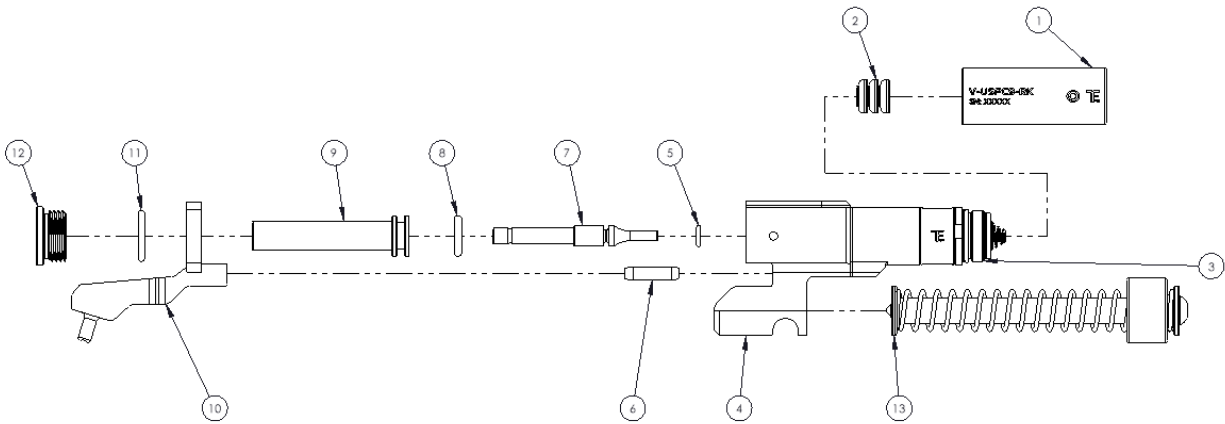

Figure 1: Barrel Assembly
Inspection of the striker and piston O-rings (Figure 1) should be done once a week. These O-rings are essential to ensure consistent and high-quality recoil and should be cared for accordingly.
- Remove both the piston and striker (Figure 1, #9, #7) and wipe down with a rag or paper towel.
- Inspect both the piston and striker O-rings (Figure 1, #8, #5) and replace if any damage/wear is present.
Inspect the air transfer tube (Figure 1, #6) once a month. If any excessive wear or damage is noticed then it should be replaced. Refer to the picture below of a worn air transfer tube and a new air tube.
Use a 13mm wrench to hold the charge chamber (Figure 1, #3) and use your hand to unscrew the Laser Barrel Assembly (Figure 1, #1). Replace the Batteries (Figure 1, #2) and reassemble.